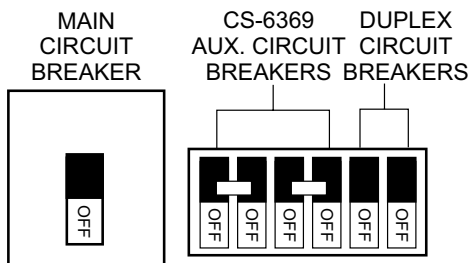

Figure 36. Main, Aux. and GFCI Circuit Breakers (OFF)
1. Place the **Main, Aux. and Duplex** circuit breakers (Figure 36) in the **OFF** position prior to starting the engine.